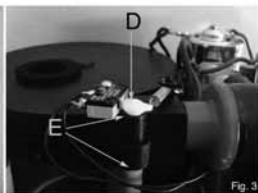

Fig. 3
2. CLEAN WITH AIR ALL COMPONENTS OF THE INFLATOR AND MANUALLY CHECK THE FREE ROTATION OF THE CAM "D" (Figure 3).
- CLEAN, BY BLOWING AIR, THE TWO PINS "E" (figure 3) UNTIL THE CAM CAN ROTATE FREELY